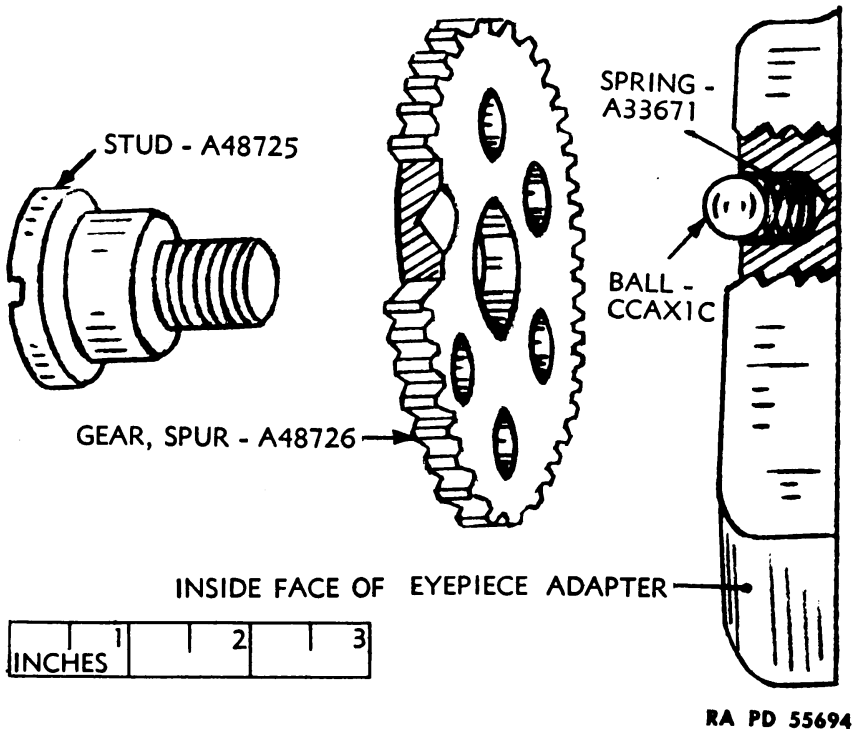

Figure 41—Spur Gear Assembly—Exploded View
(1) Unscrew spur gear stud A48725 (fig. 41), and remove spur gear A48726.
(2) Remove ball CCAX1C and spring A33671 assembled in the eyepiece adapter C69961.